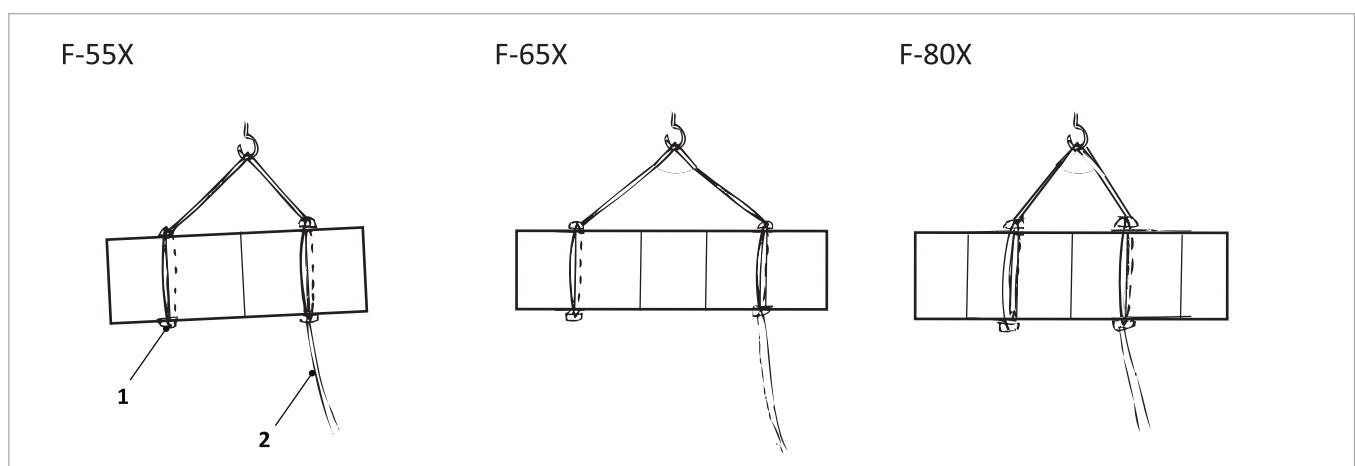

Fig. 2: SolvisFera – position of grips and tethers
- Fasten grips and tethers to the collector as shown in ➔ fig. 2